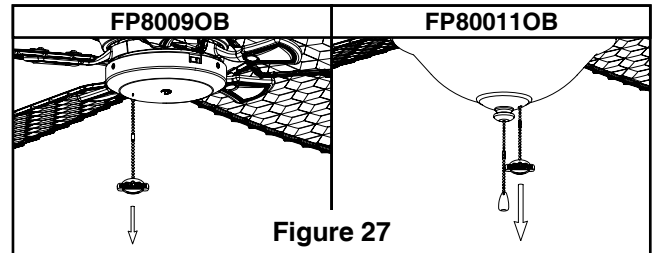

Figure 27
- ☐ 2. Check the operation of the fan by gently pulling on the fan speed pull chain. (Fig. 27)